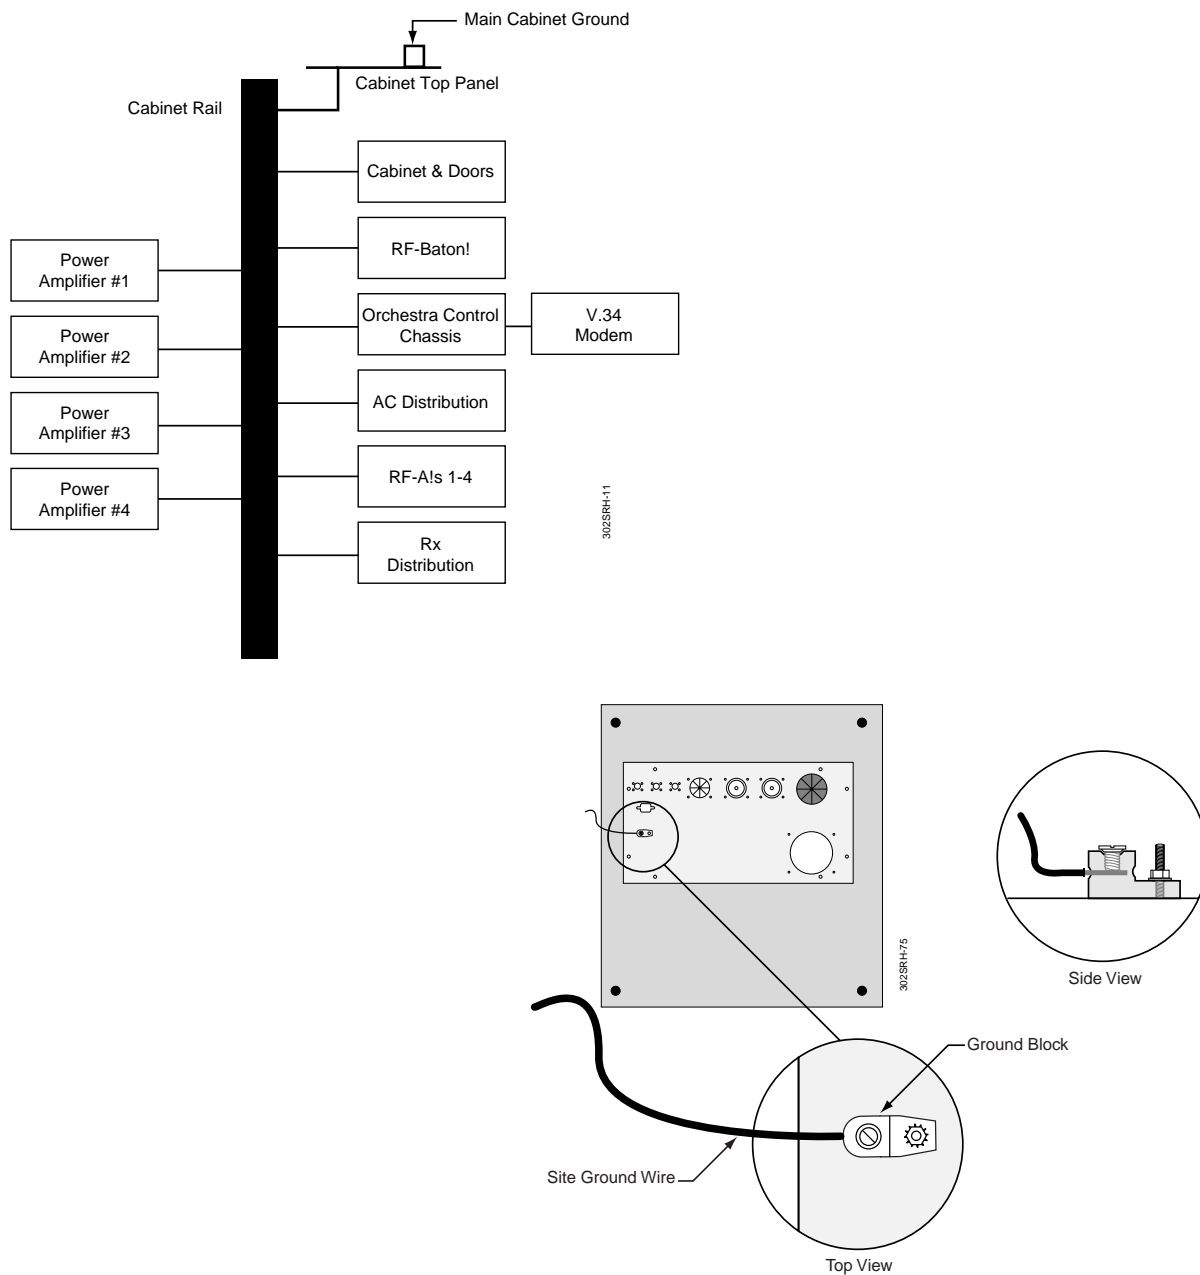

Figure 4-4: RF-O! Paging Station Ground Connections
Safety and operation depend on proper grounding of the equipment (see Chapter 3, "Preinstallation"). Figure 4-4 shows the main cabinet ground at the top of the cabinet. The main cabinet ground connects to the cabinet rail. Each chassis installed in the cabinet has an independent ground connection to the cabinet rail (see Figure 4-4).
3. Loosen the set screw in the ground block and insert the stripped end of the ground wire (see Figure 4-4).